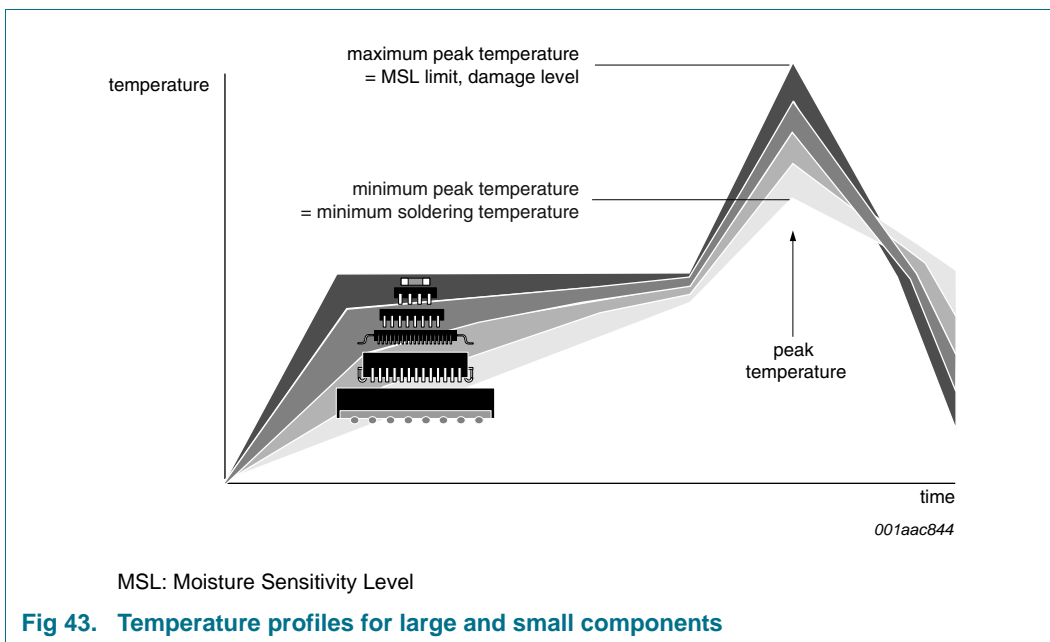

Fig 43. Temperature profiles for large and small components
- Lead-free versus SnPb soldering; note that a lead-free reflow process usually leads to higher minimum peak temperatures (see Figure 43) than a SnPb process, thus reducing the process window
Studies have shown that small packages reach higher temperatures during reflow soldering, see Figure 43.